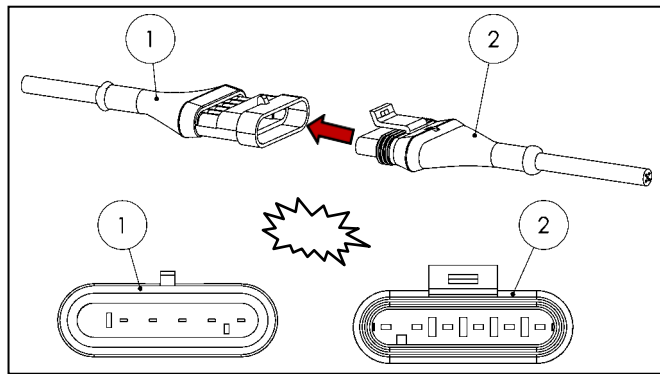

Figure 49
- Connect the control panel connector (1) to the control unit connector (2) (see Fig. 49).